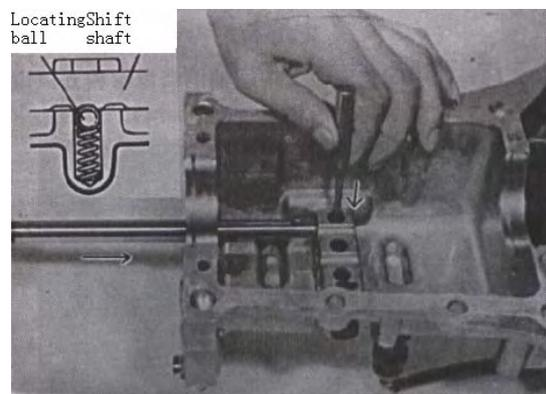

Fig 10-82
(3) As shown in FIG.10-82, push down high speed gear shift shaft locating ball to pass shaft over it and keep inserting shaft until locating ball fits in center slot of 3 continuous slots in shaft. Drive shift yoke pin into fork and shaft.